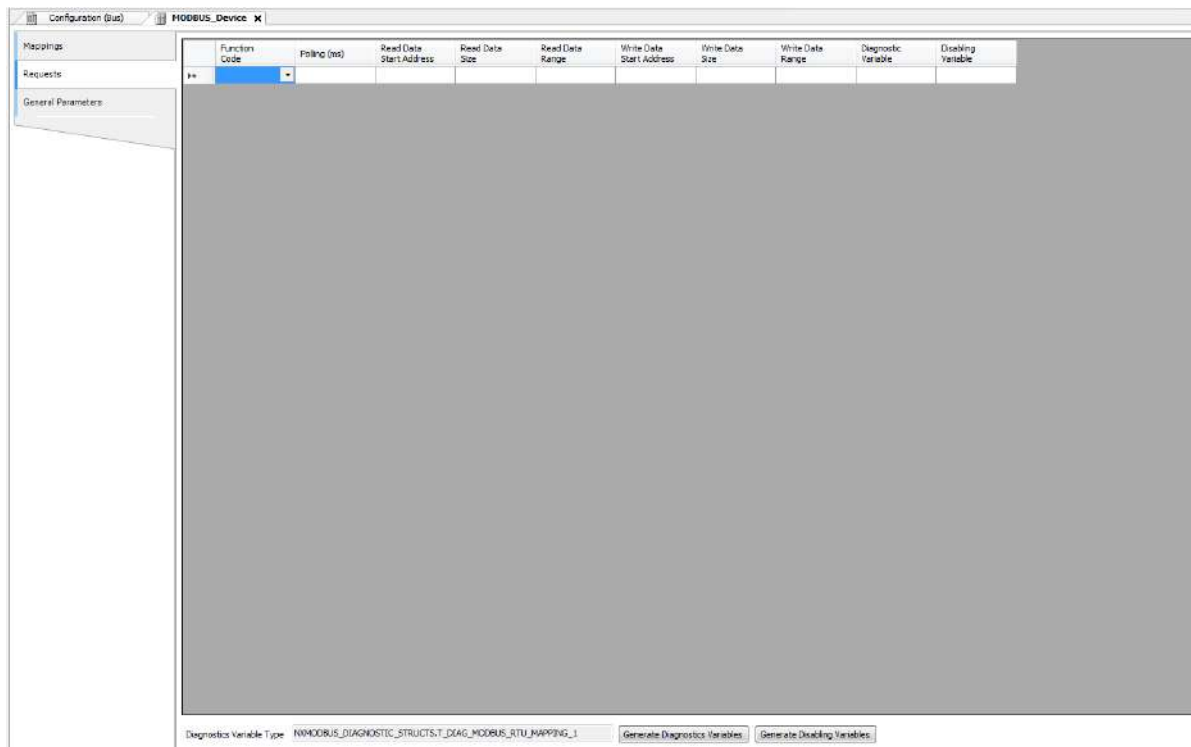

Figure 87: Data Requests Screen MODBUS Master
- Add and configure the MODBUS requests as presented in Figure 87, specifying the function, the scan time of the request, the starting address (read/write), the data size (read/write) and generate diagnostic variables and disabling the request via the buttons at the bottom of the window.